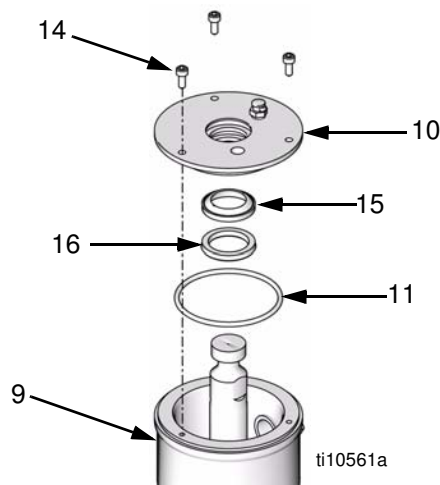

FIG. 5
5. On displacement pumps with enclosed wet cups (9), use an M4 hex wrench to remove the three screws (14) from wet cup cover (10) and remove cover. Drain and clean out the wet cup (9). See FIG. 5.
6. On displacement pumps with enclosed wet cups (9), use o-ring pick to remove o-ring (11), and a flat head screwdriver to remove wiper (15) and seal (16).